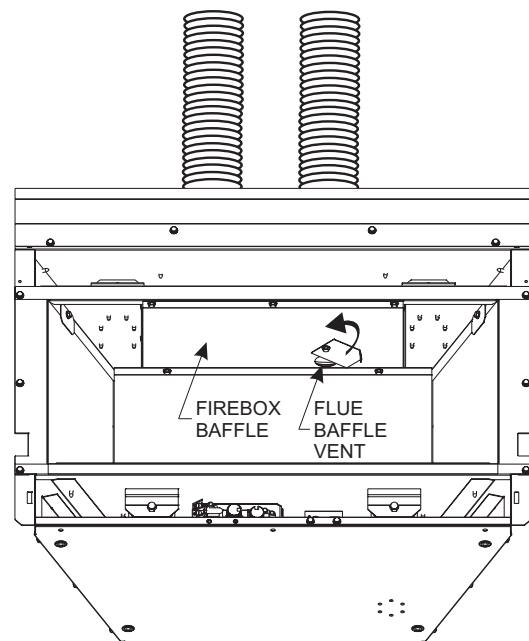

Figure 11
4. Remove the switch knockout on the side surround panel, then install the ON/OFF switch. See Figure 11.